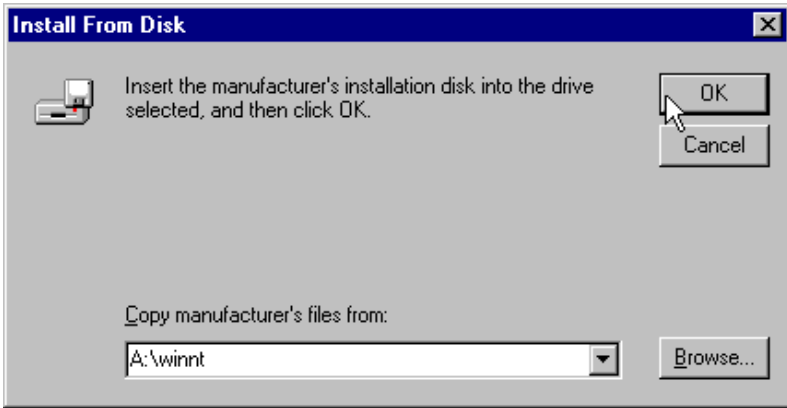

Figure 23. Install from Disk
- 2 Click on the **Have Disk...** button. The **Install from Disk** (Figure 23) dialog appears. Insert the 3ware driver installation diskette. **DO NOT** use the special diskette labeled specifically for Windows NT driver installation.